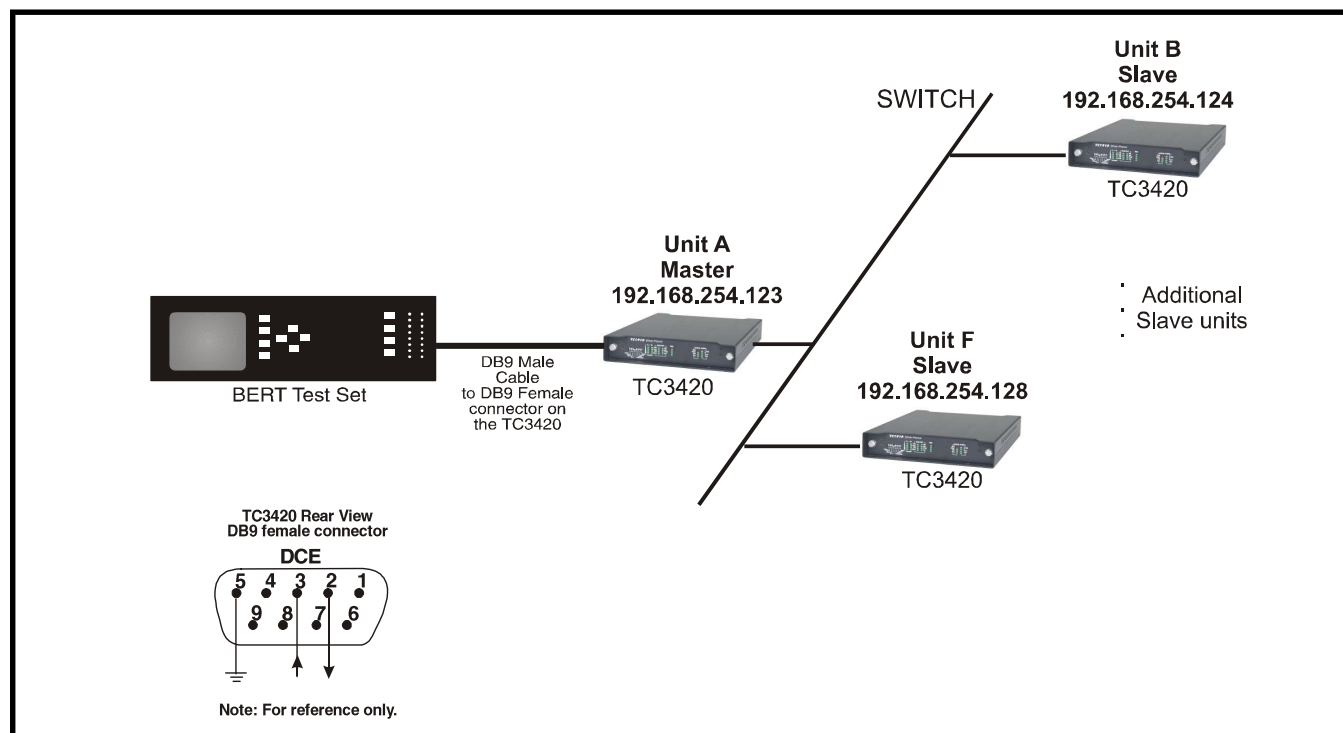

Figure 18. TC3420 Remote Electrical Loopback Bench Test
1. Set up the bench test as shown in Figure 18. Connect the Master unit and Slave units to an Ethernet switch. Connect the BERT tester to the Master unit.